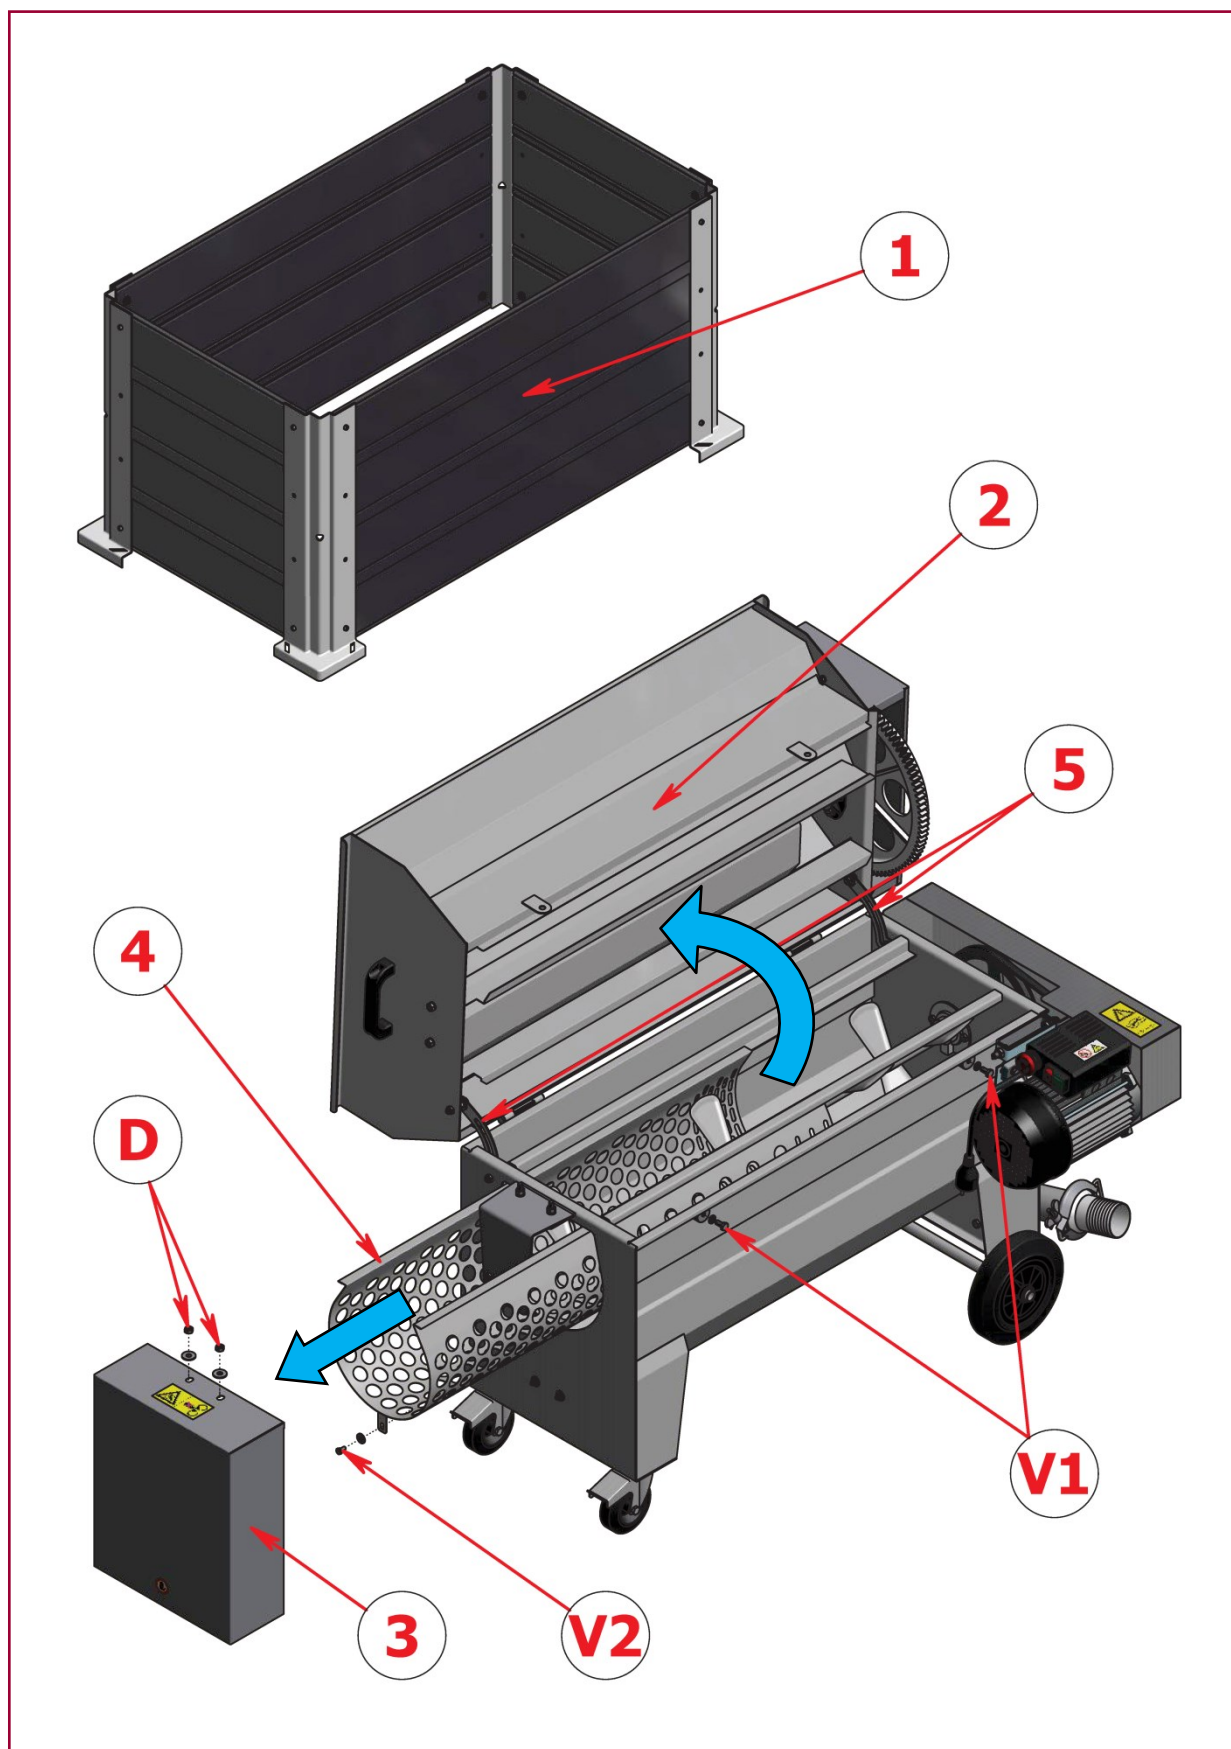

Fig. 6.4
At the end of the work day, the machine should be cleaned in the following way (see fig. 6.4):
- Unscrew the **V1** screws and open the hopper **2** as shown in figure 6.4;